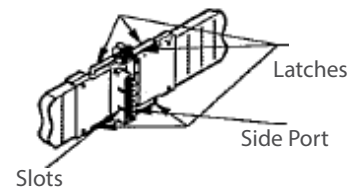
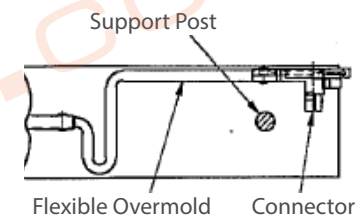

FIGURE 3
FIGURE 5
When installing flexible connectors in a panel run that includes 2-way 90, three-way, four-way or ceiling entry connectors, the side connection is used. Position the flexible connector in its extended position. SEE FIGURE 5. Align the end port with the appropriate side port and fully install so that connector latches. Engage the mounting ramps on the adjacent connector. SEE FIGURE 3.
B. With one end of the side cover clear of the top channel, press and pull back at several points down the length of the side cover until it is completely free of the top channel. The side cover can then be rotated to allow access to the cable management channel for cable or flexible connector installation. SEE FIGURE 3.
Trim covers have latches that engage the panel connector and hold the trim cover in position. SEE FIGURES 5 AND 7.